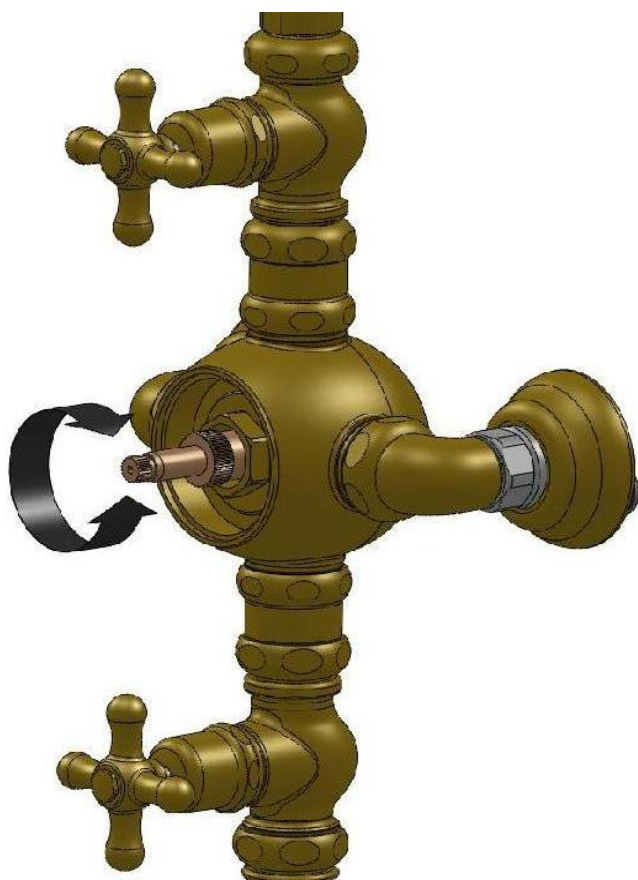

FIG. 1
- Adjust by turning the rod of the concealed body, until the water temperature is 38 degrees (to make sure that this setting is accurate, we recommend the use of a good thermometer) as shown in Figure 1.